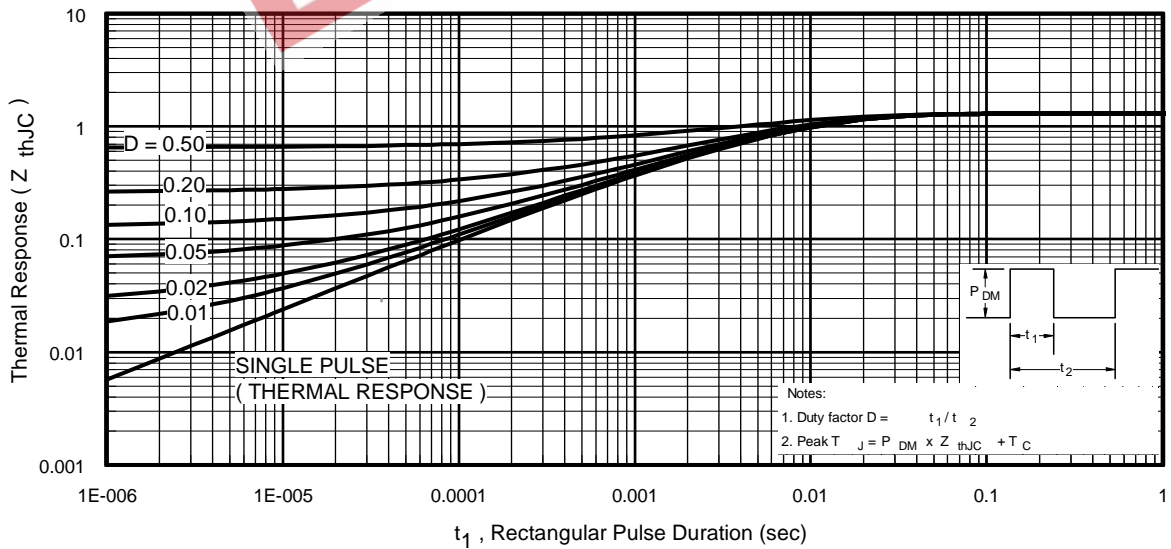
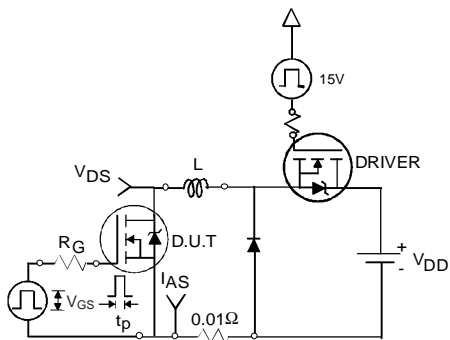

Fig 11. Maximum Effective Transient Thermal Impedance, Junction-to-Case
Fig 12a. Unclamped Inductive Test Circuit
3. Equation below based on circuit and waveforms shown in Figures 12a, 12b.
$Z_{thJC}(D, t_{av})$ = Transient thermal resistance, see figure 11)
- ① Repetitive rating; pulse width limited by max. junction temperature. (See fig. 11).
- ② Limited by T_{Jmax} ; starting $T_J = 25^\circ C$, $L = 0.71mH$, $R_G = 25\Omega$, $I_{AS} = 23A$, $V_{GS} = 10V$. Part not recommended for use above this value.
- ③ $I_{SD} \leq 23A$, $di/dt \leq 400A/\mu s$, $V_{DD} \leq V_{(BR)DSS}$, $T_J \leq 175^\circ C$.
- ④ Pulse width $\leq 1.0ms$; duty cycle $\leq 2\%$.
- ⑤ C_{oss} eff. is a fixed capacitance that gives the same charging time as C_{oss} while V_{DS} is rising from 0 to 80% V_{DSS} .
- ⑥ Limited by T_{Jmax} , see Fig. 12a, 12b, 15, 16 for typical repetitive avalanche performance.
- ⑦ This value determined from sample failure population. 100% tested to this value in production.
- ⑧ When mounted on 1" square PCB (FR-4 or G-10 Material). For recommended footprint and soldering techniques refer to application note #AN-994.